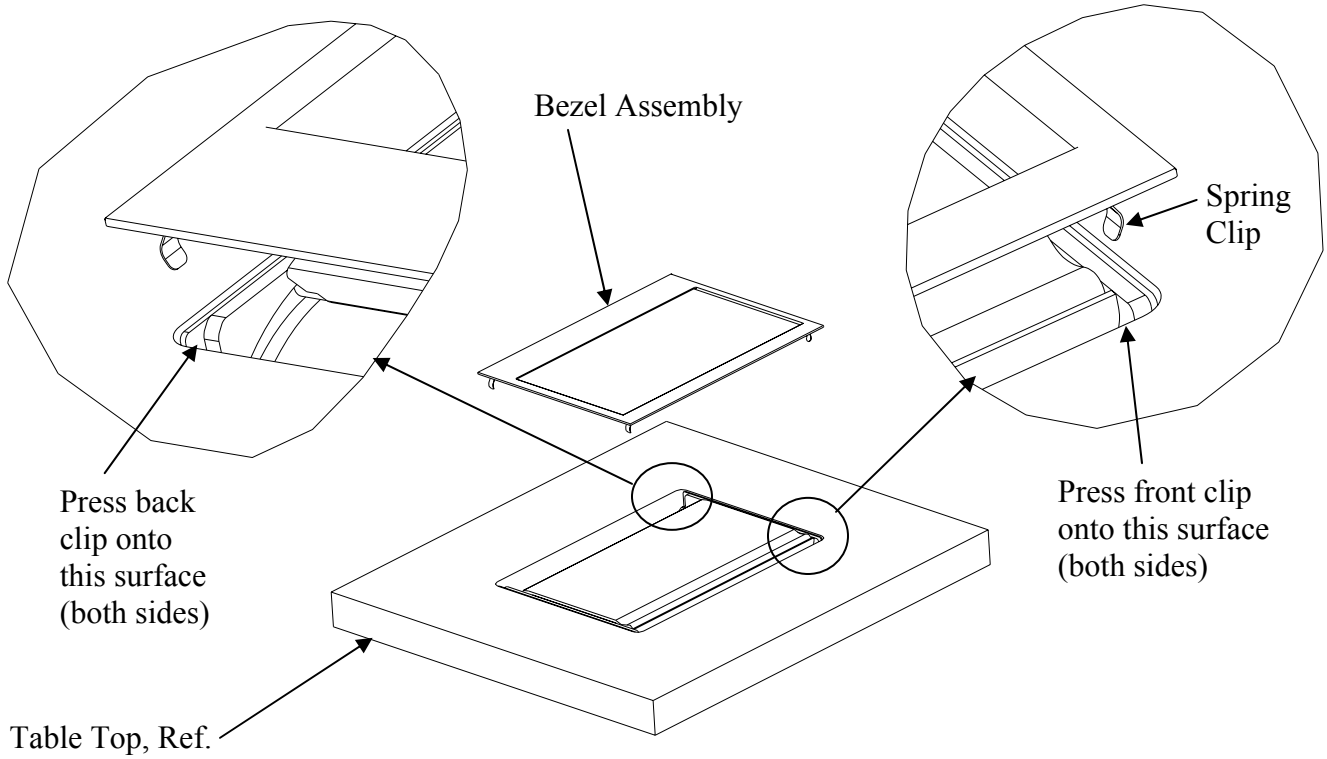

Figure 2: Bezel Assembly Placement
Step 2 Press Bezel Assembly (included with Techport) into top of Techport, aligning spring clips to mating grooves on inner walls so that bezel sits level with top surface, fully seated around the outer edges (see Figure 2).